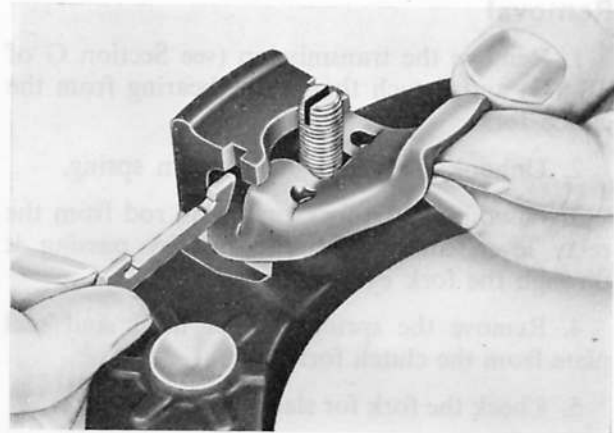

Fig. E.6. Withdrawing a strut for removal of a release lever and eye bolt
3. Release the assembly from the jig. Remove the cover, and the components assembled to the pressure plate (Fig. E.6).